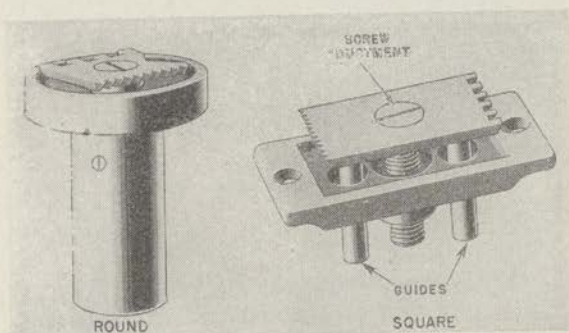

FIGURE 8.—Bench stops.
b. Bench stop.—A bench stop to prevent a board from moving endwise while it is being planed should be mortised into the bench, preferably near the left end. The two types illustrated in figure 8 are adjusted flush with the top of the bench when not in use. A